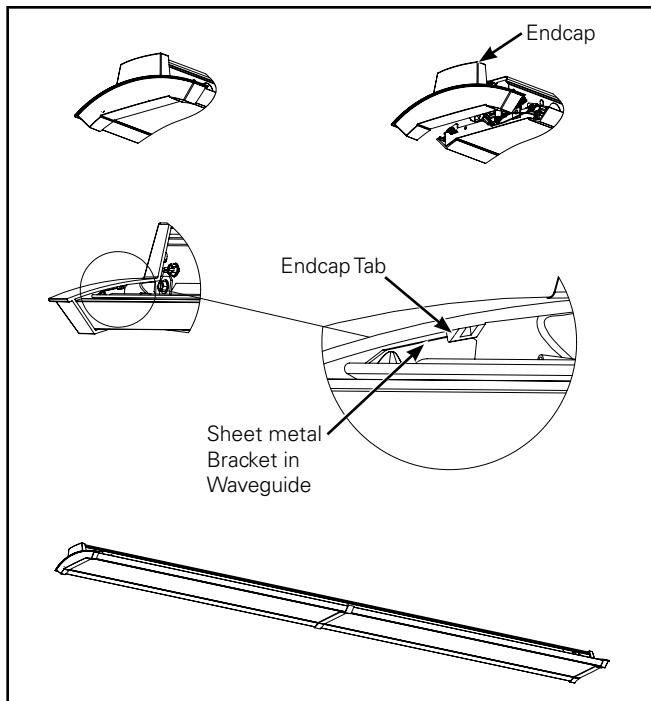

Figure 15.
10. Remove endcaps from parts box, install Endcap to fixture. Tuck wire harnesses and safety cable while installing. Endcap tabs must fully engage in the metal bracket. (Figure 15.)